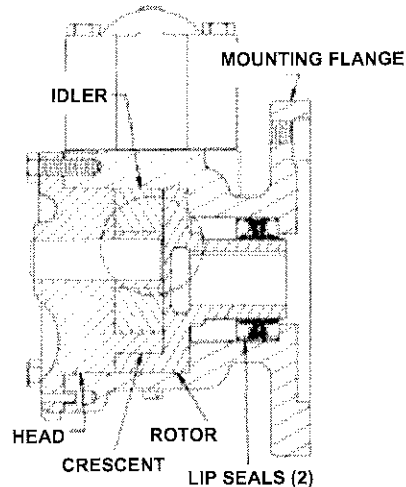

FIGURE 8
To Reassemble Model H75, HJ75, or HL75 Lip Seal Pumps: (See Figure 8)
6. THE HEAD CAN NOW BE ASSEMBLED ON THE PUMP. Tilt the top of the head away from the pump slightly until the crescent enters the inside diameter of the rotor and rotate the idler until its teeth mesh with the rotor teeth. Do not damage the head gaskets. Note correct position of idler and crescent. (See Figure 8 and Disassembly Step 2). Tighten the head capscrews and then check the end clearance.